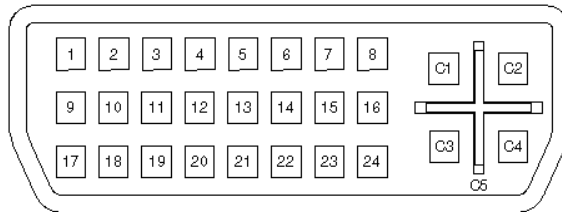

Figure 3-16: DVI-D Connector Pinouts
- CN Pinouts:** See Table 3-14 and Figure 3-16